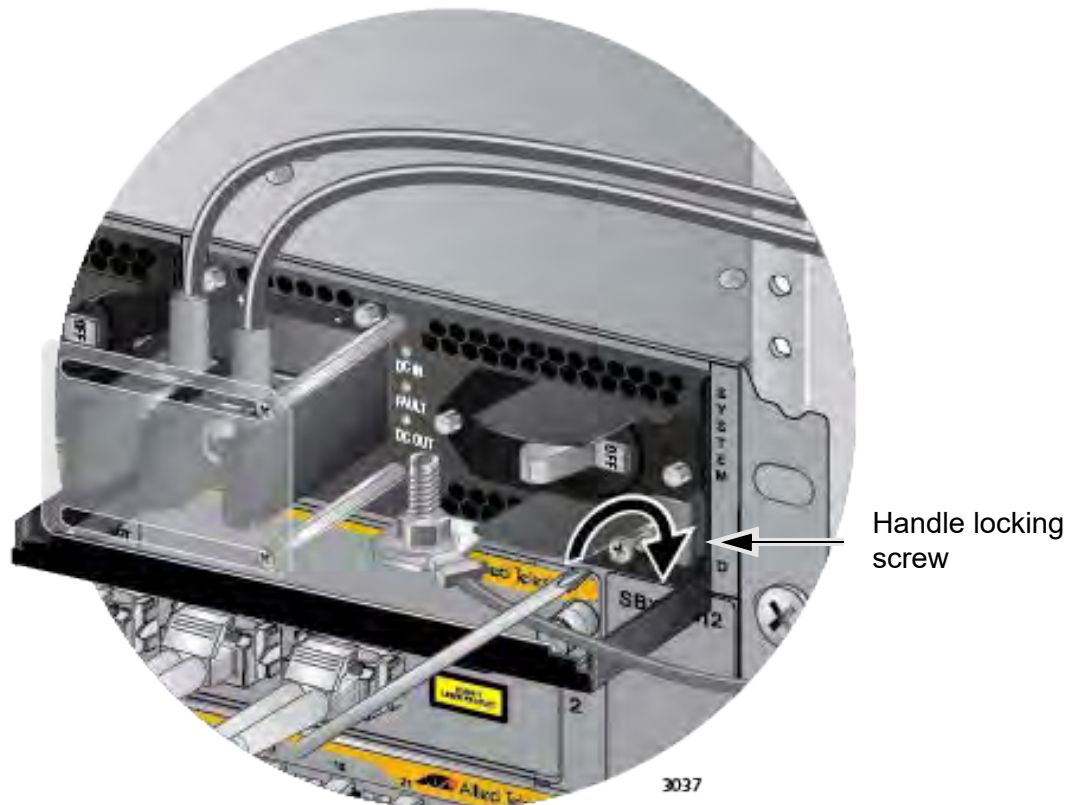

Figure 142. Tightening the Handle Locking Screw
9. With a #2 Phillips-head screwdriver, tighten the handle locking screw to secure the power supply to the chassis. See Figure 142 on page 221.
7. With a #2 Phillips-head screwdriver, tighten the handle locking screw to secure the power supply to the chassis. See Figure 142 on page 221.